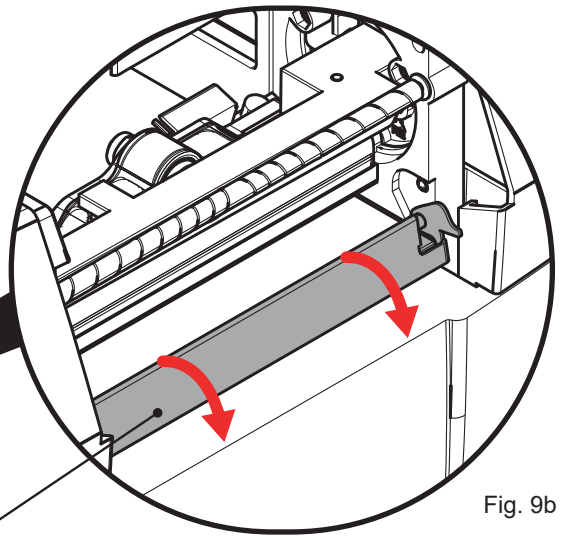

Fig. 9b
- ▶ Rotate the front media guide (15) completely downwards (Fig. 9b).